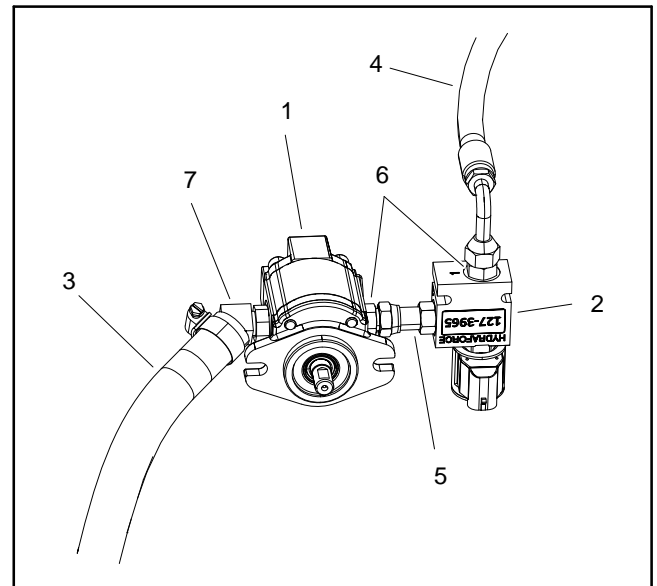

Figure 22
4. Disconnect hydraulic enable valve from pump. Loosen swivel connector at fitting in gear pump (Fig. 22).
6. Loosen two (2) square head set screws that secure pump hub (item 12) to gear pump shaft.
8. Remove two (2) cap screws, flat washers and lock nuts that secure gear pump to frame bracket.
10. Locate and retrieve square key (item 9) from gear pump shaft.